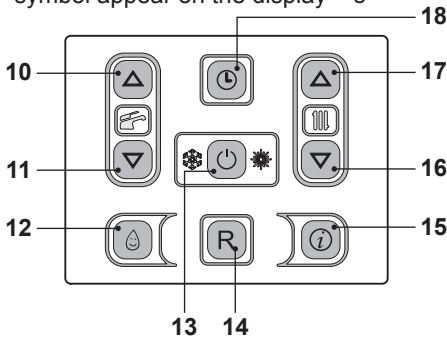

Fig. 2.7
Enter "programming mode" by holding down key 18 for 5 seconds (Fig. 2.7) until the display indicates the  symbol.
Use keys 16 (decrease) and 17 (increase) Fig. 2.7 to set the time, day and date values, using keys 10 and 11 to move from one parameter to the next.
- Press the key 13 for 2 seconds until  symbol appear on the display Fig. 2.7.
The output temperature of C.H. water can be adjusted by pressing keys 16 (reduce) and 17 (increase) (Fig. 2.7) from a minimum of about 25°C to a maximum of about 85°C. Press one of the two keys once to display the "set" value. Press again to access the modification.